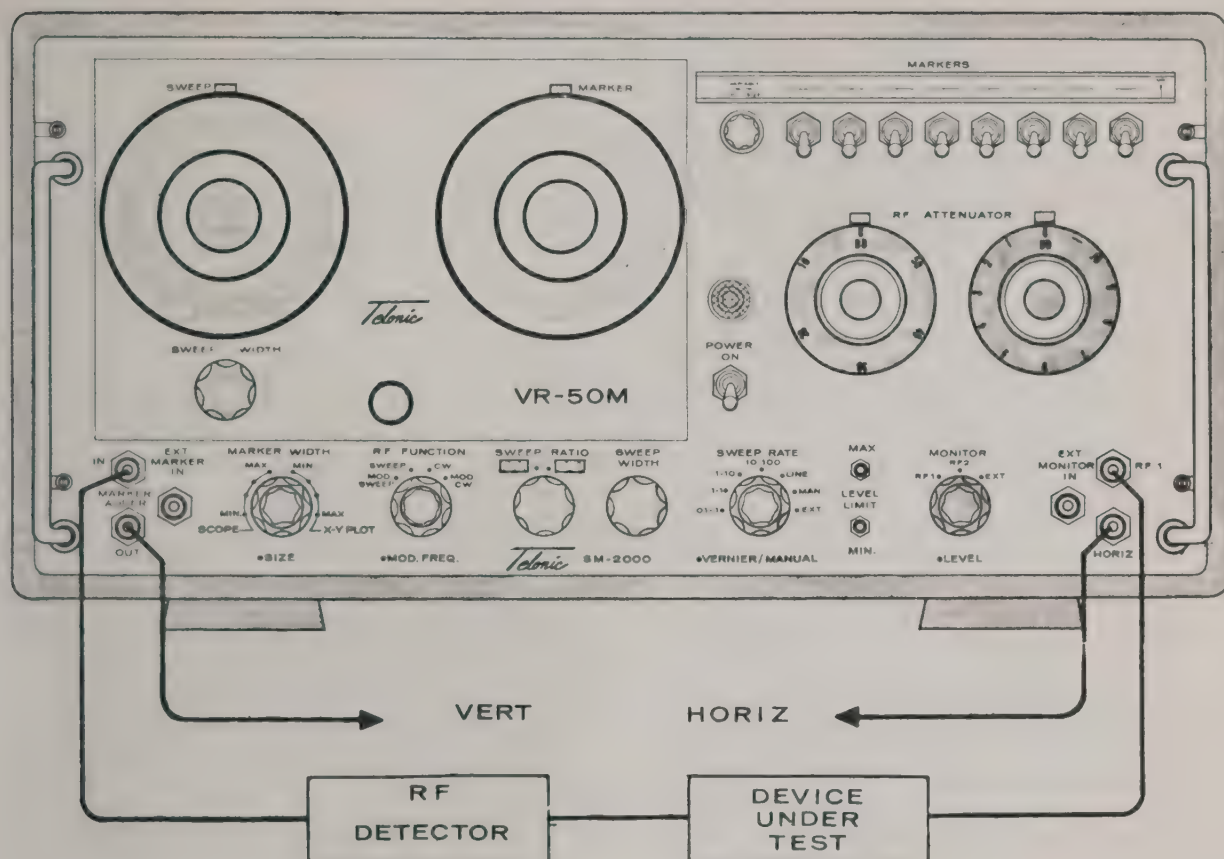

Figure 2-3. Typical Test Connection
- b. Connect the SM-2000 to the unit under test as shown in figure 2-3.